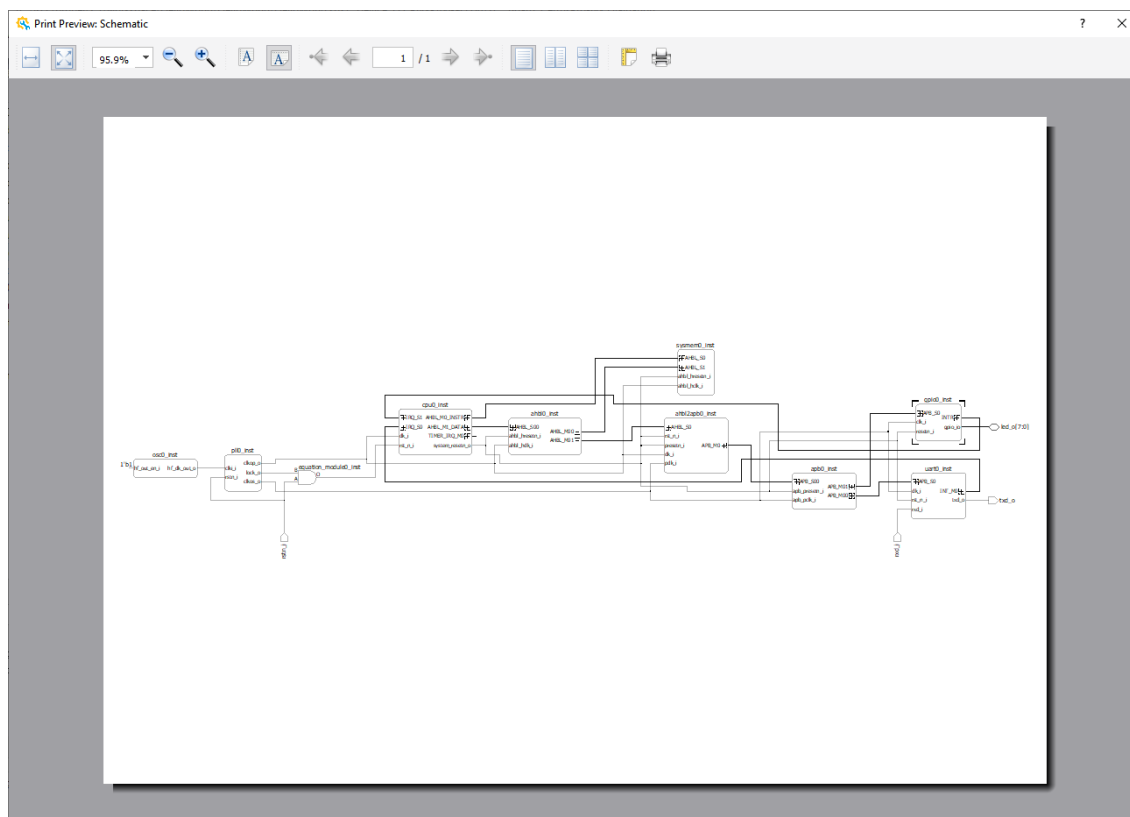

Figure 2.76. Print Preview
1. Choose **File > Print Preview**. The Print Preview window (Figure 2.76) opens.